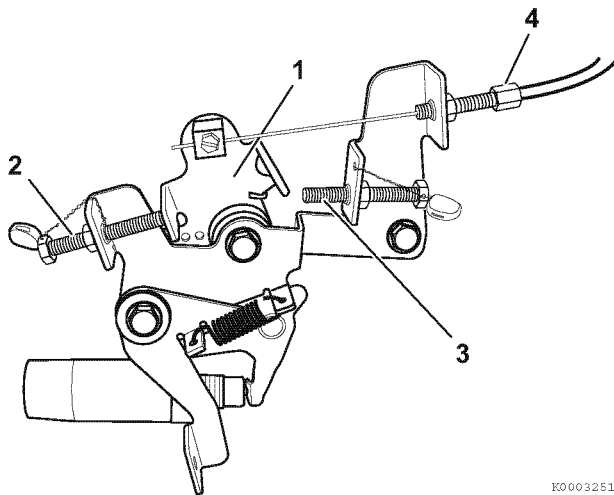

Figure 5-9
1. On remote controlled variable speed engines, check that the governor lever (1, **Figure 5-9**) makes uniform contact with the high idle (3, **Figure 5-9**) and low idle (2, **Figure 5-9**) speed limit screws when the engine speed control is in high idle speed or low idle speed position.
2. If the governor lever does not make contact with the high idle or low idle speed limit screw, loosen the jam nuts and adjust the throttle cable adjustment screw (4, **Figure 5-9**).